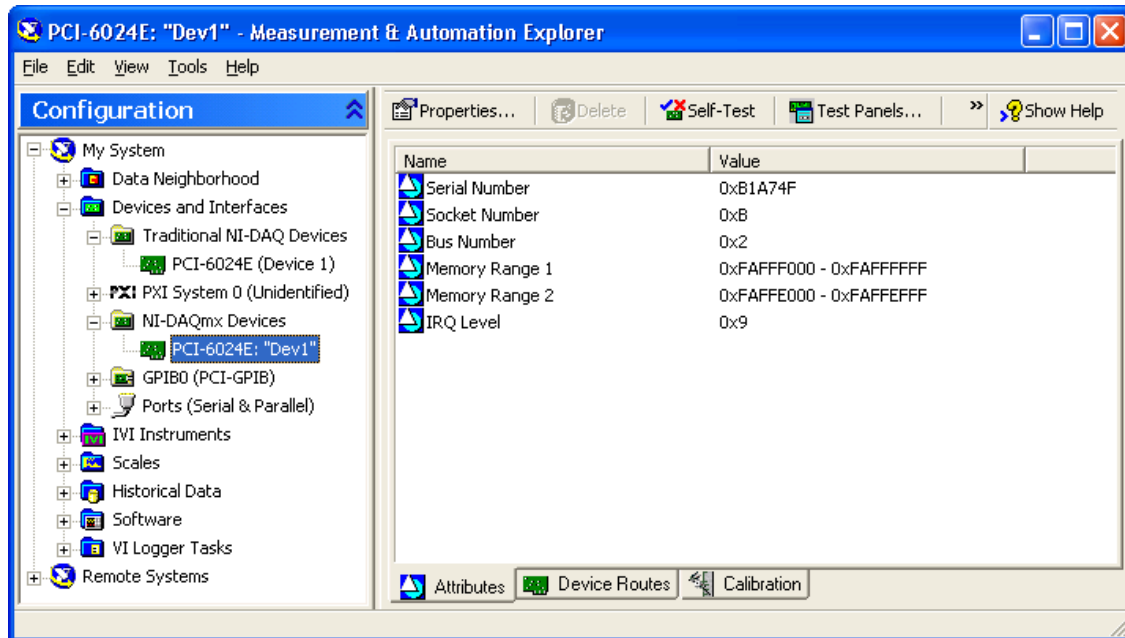

Figure 10.3
2. Expand the Devices and Interfaces section to view the installed National Instruments devices. Figure 10.3 shows the PCI-6024E and a PCI-GPIB device.